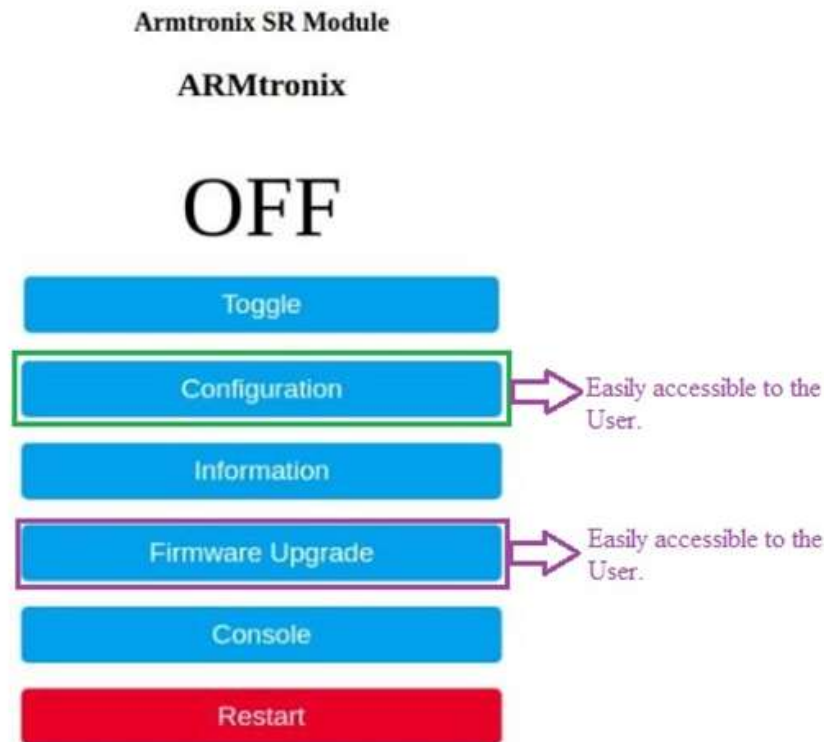

Figure 15: Main Menu
- Click on Configure MQTT option provided as shown in the figure 15 below,